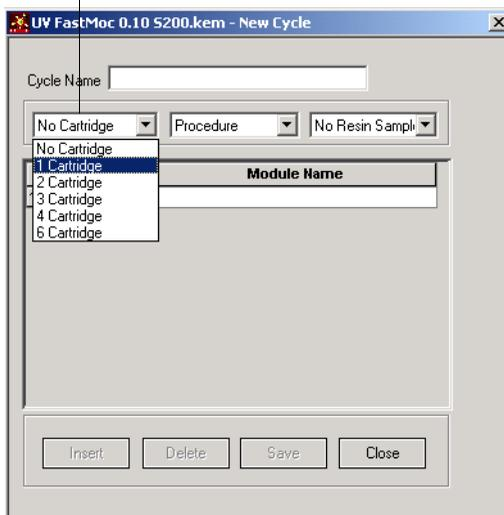

Figure 7-15 Specifying Cartridges
3. Click the **Cartridges** drop-down list box, then select the number of cartridges you want (Figure 7-15).